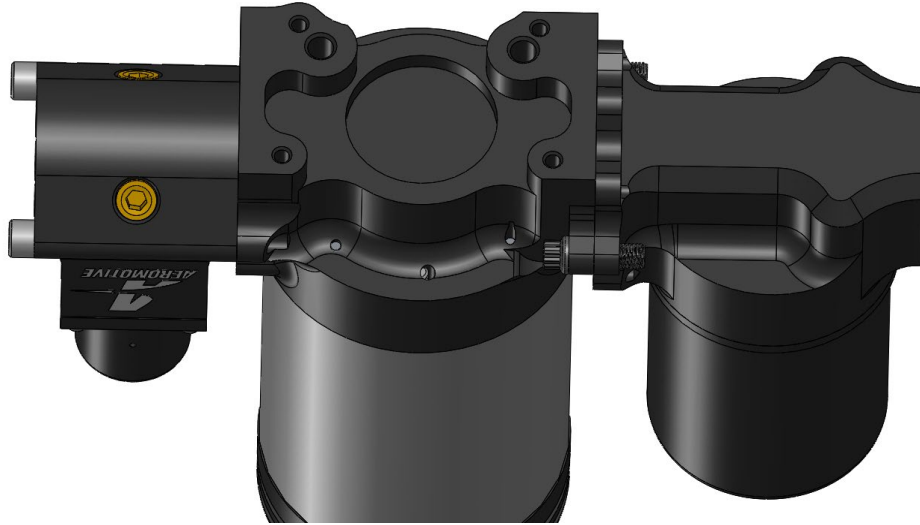

FIGURE 1-1
2. Disconnect the existing pump fuel lines. Plug the open fuel line ends to prevent foreign matter from entering the fuel system. Remove pump mounting screws and remove the existing pump. If you are replacing a similar competitor's fuel pump, the Aeromotive fuel pump comes with additional mounting bracket holes underneath the Aeromotive mounting bracket which may be compatible (**FIGURE 1-1**).